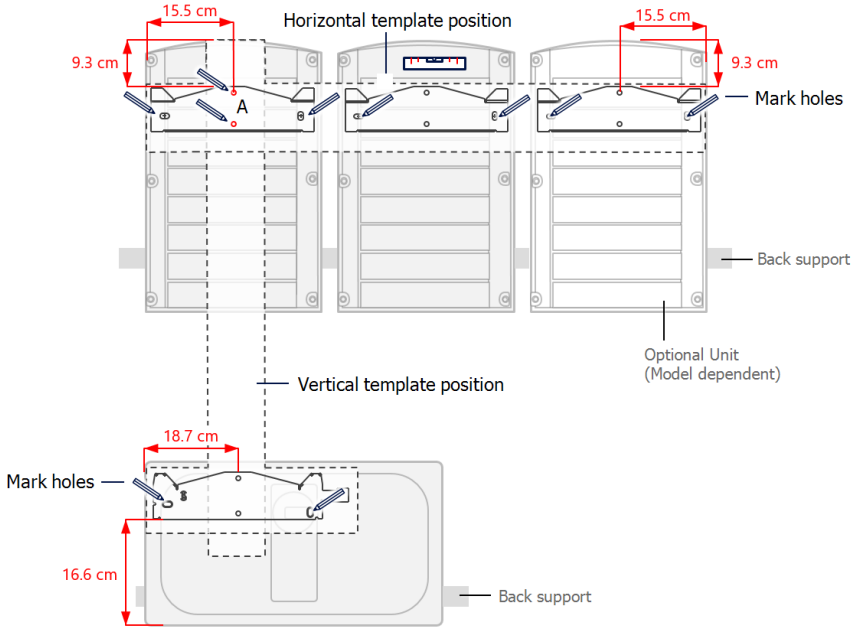

Figure 15: Marking the drilling holes locations
When installing the inverter on a stud framing or a rail, avoid wobbly installation by adding back support at the lower back side of the Synergy Manager and Synergy Units (See *Figure 15*)
3. Level the mounting template horizontally against the wall and mark the drilling hole locations for the bracket of the Synergy Units (see pencil icons in *Figure 15*).